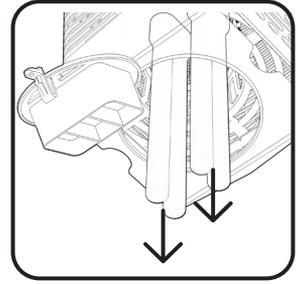

Fig. 3
5. Wearing gloves, Gently tug on the bulb to remove. (Fig. 3)